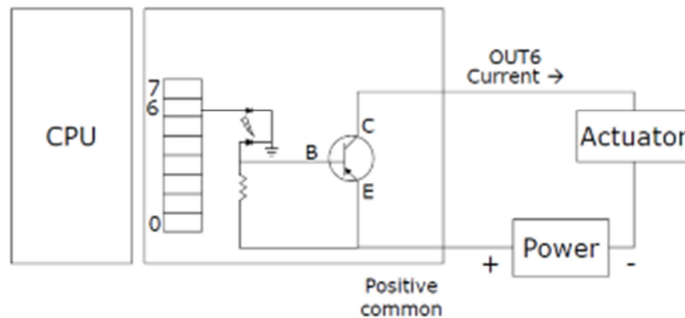

Fig.Q2 (a)
- a) Consider the diagram shown in Fig.Q2 (a)